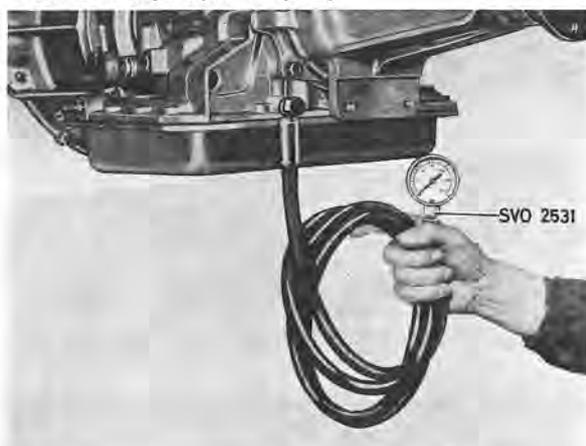

Fig. 4-71. Connecting pressure gauge
1. Connect a tachometer to the engine and pressure meter to the transmission as shown in Fig. 4-71.
2. Chock the wheels and apply the brakes. Start the engine and move the lever to "D". Read off the pressure at 500 and 1000 r.p.m. At 1000 r.p.m. the gauge to the transmission as shown in Fig. 4-71. pressure should be 15—20 p.s.i. (1.1—1.4 kp/mm2)\* higher than at 500 r.p.m. If the pressure rise is less than 15 p.s.i. (1.1 kg/cm2), the effective length of the outer cable should be increased by means of the adjuster. Conversely, if the rise is more than 20 p.s.i. (1.4 kp/cm2) the effective length of the outer cable should be decreased.